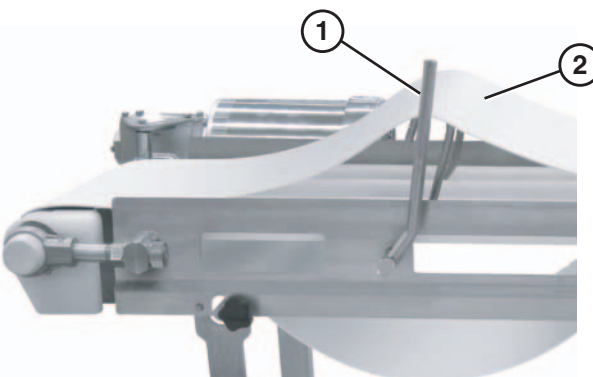

Figure 37
3. Use the lifter handle (**Figure 37, item 1**) to raise the belt (**Figure 37, item 2**).